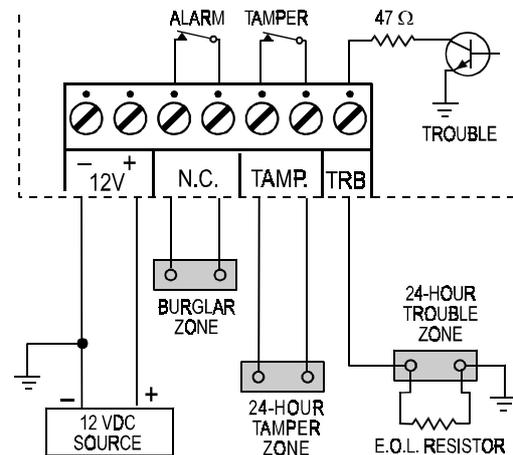

Figure 4. Terminal Block Wiring
Connect wires to the terminal block in the following order (Fig. 4):
**Connect to:** 24-hour trouble zone, parallel to an E.O.L. resistor (see Figure 4).